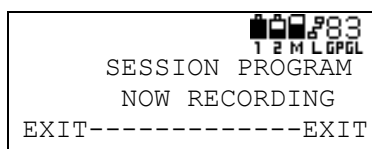

Figure 3-121. Session in Progress
- When the specified start time arrives, the session automatically starts and ends at the specified times (Figure 3-121).